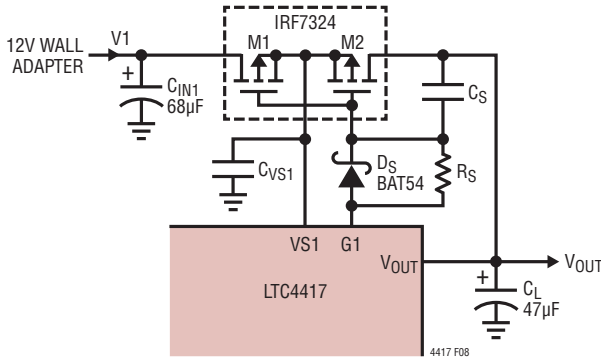

Figure 8. Slew Rate Limiting Gate Drive
Equation (13) assumes no inrush current limiting circuitry is required. If it is required, refer to Figure 8 and use the following Equation (14) for C_L.
where R_S and C_S are component values shown in Figure 8. The selection of R_S and C_L involves an iterative process. Begin by assuming $0.79 \cdot R_S \cdot C_S = 10\mu\text{s}$ and choosing C_L using Equation (14). See the Inrush Current and Input Voltage Droop section for more details regarding inrush current limiting circuitry, and for selecting R_S .
In situations where input and output capacitances cannot be chosen to set the desired maximum input voltage droop, or the peak inrush current violates the maximum Pulsed Drain Current (I_{DM}) of the external P-channel MOSFETs, inrush current can be limited by slew rate limiting the output voltage. The gate driver can be configured to slew rate limit the output with a resistor, capacitor and Schottky diode, as shown in Figure 8. The series resistor R_S and capacitor, C_S , slew rate limit the output, while the Schottky diode, D_S , provides a fast turn off path when G1 is pulled to VS1.